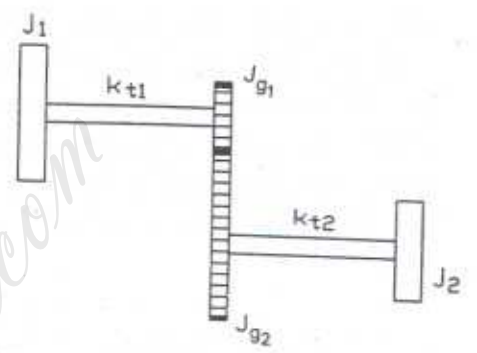

FIG. 3
b) How will you obtain the natural frequency of the 2-rotor geared system shown in Fig.3, when the inertia of the gears are not negligible? Obtain the expressions for equivalent stiffness and inertia in this case. (06)